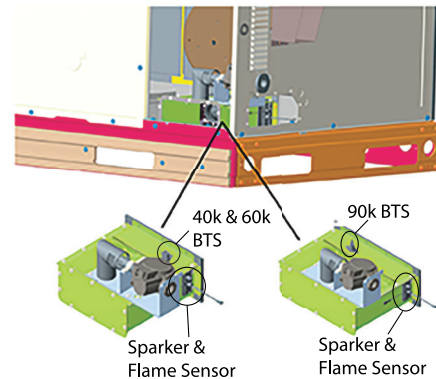

Fig. 23 – Burner Thermal Switch (BTS) (Ultra Low NOx)
- Remove 2 screws holding the flue hood (Fig. 23) and remove the flue hood.
- Re-connect flue hood (Fig. 23) using the 2 screws removed.
NOTE: For Ultra Low NOx The combined flame sensor/sparker is located on the right side of the burner box (See Fig. 23). The flame sensor/sparker is accessible for service by removing the cover in the right side panel. The burner thermal switch (BTS) is located on the top of the burner box. For 60k heat sizes, the BTS switch is accessible through the cover in the right side panel. For 90k heat sizes, the BTS switch is accessible by removing the control access panel.